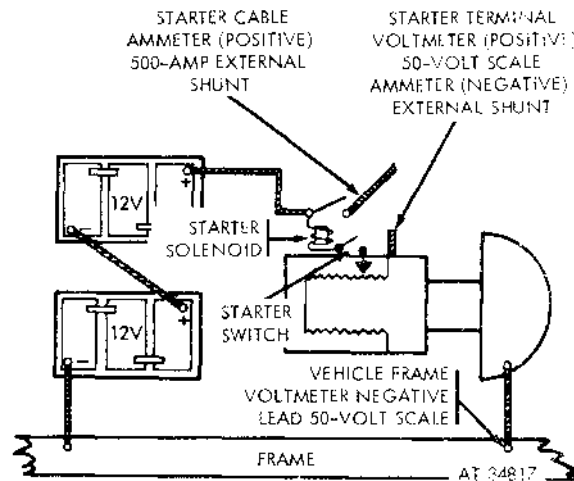

Figure 2-26. Starter amperage draw test.
(1) Connect the voltmeter leads and 500-amp shunt leads to the tester.
(2) Place voltage selector in the 50-volt position and connect the negative lead of the voltmeter to the battery or frame ground as shown in figure 2-26.
(3) Disconnect the starter cable at the starter and connect the large positive external shunt lead to cable. Refer to figure 2-26.
(4) Connect the large negative external shunt lead and the voltmeter plus lead to the starter cable post on the starter. Refer to figure 2-26.
(5) Close the starter switch and observe the readings, voltage 18 to 24 and amperage 150 to 200 amps.
(6) If the starter circuit closes and the voltage and amperage are correct, the starter circuit and connections are functioning correctly.
(7) If the starter voltage is present but the starter will not crank, check the cables for line drop.
(8) If the amperage draw is too high, replace the starter (para 2-124). The same is true if the voltage is present, but no amperage is shown on meter.
(1) Connect voltmeter leads and 500-amp shunt leads to the tester.
(2) Place the voltage selector in the 50-volt position, and connect the voltmeter negative lead to the battery or frame ground as illustrated in figure 2-26.